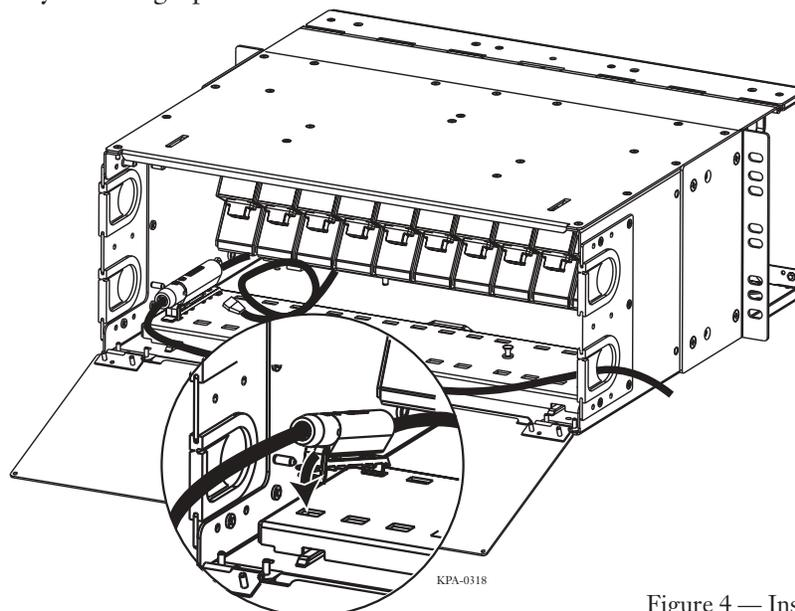

Figure 4 — Install the Furcation Plugs
- Step 1** Tilt the furcation plug and insert the foot of the clip into the first pair of square holes on the left side of the plate if the cable enters from the right (Figure 4) or on the right side of the plate if the cable enters from the left.